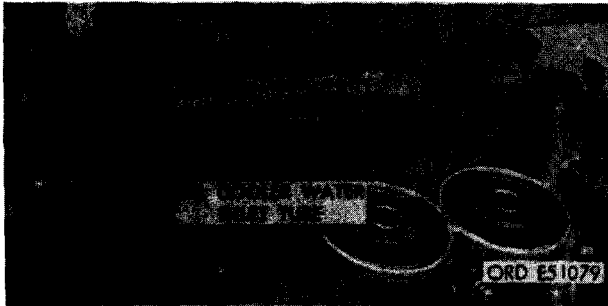

FIGURE 235. REMOVING OR INSTALLING OIL COOLER WATER INLET TUBE.
- (1) **Figure 235.** (A) Loosen two 2-inch id hose clamps securing oil cooler water inlet hose. Slide hose back on oil cooler water inlet tube. (B) Remove four 5/16-inch plain nuts and 5/16-inch lock washers securing oil cooler water inlet tube to water pump body. (C) Disconnect